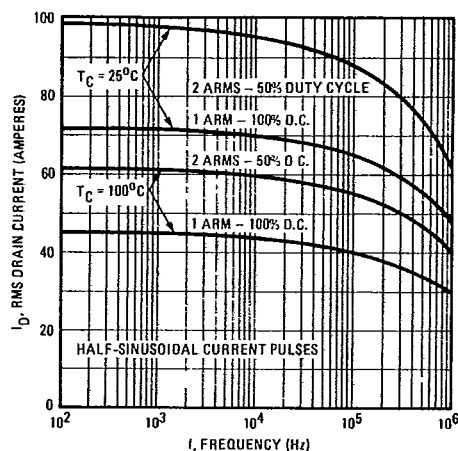

Fig. 16 - Maximum Continuous Drain Current Vs. Frequency Derating
- f) Make due allowances for drain current in high frequency applications. Refer to Figure 16.